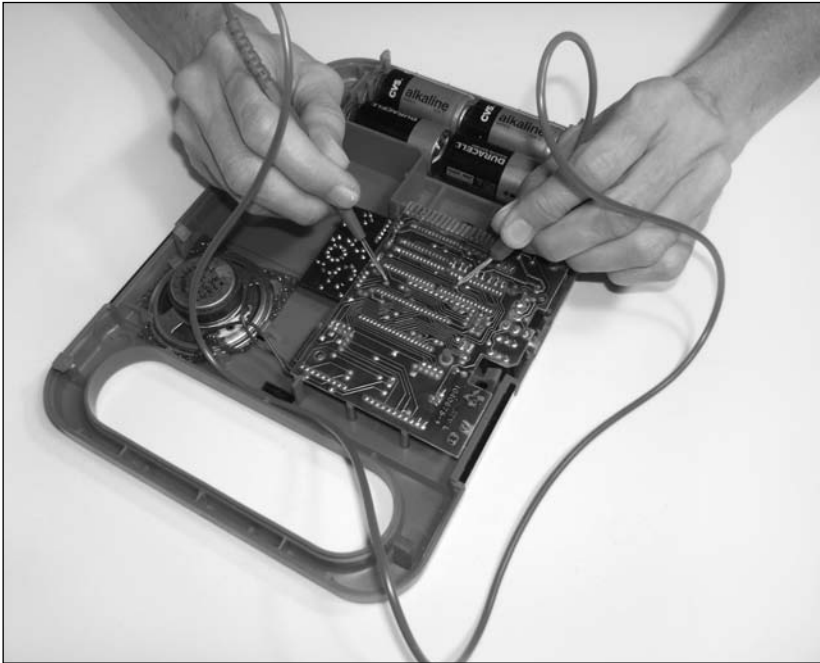

FIGURE 9-13: The circuit-bending probe in action
1. With the instrument making a sound, place one end of the bending wire upon a printed circuit trace or metal component lead on the board, such as on the “leg” of a resistor or capacitor (see Figure 9-13).